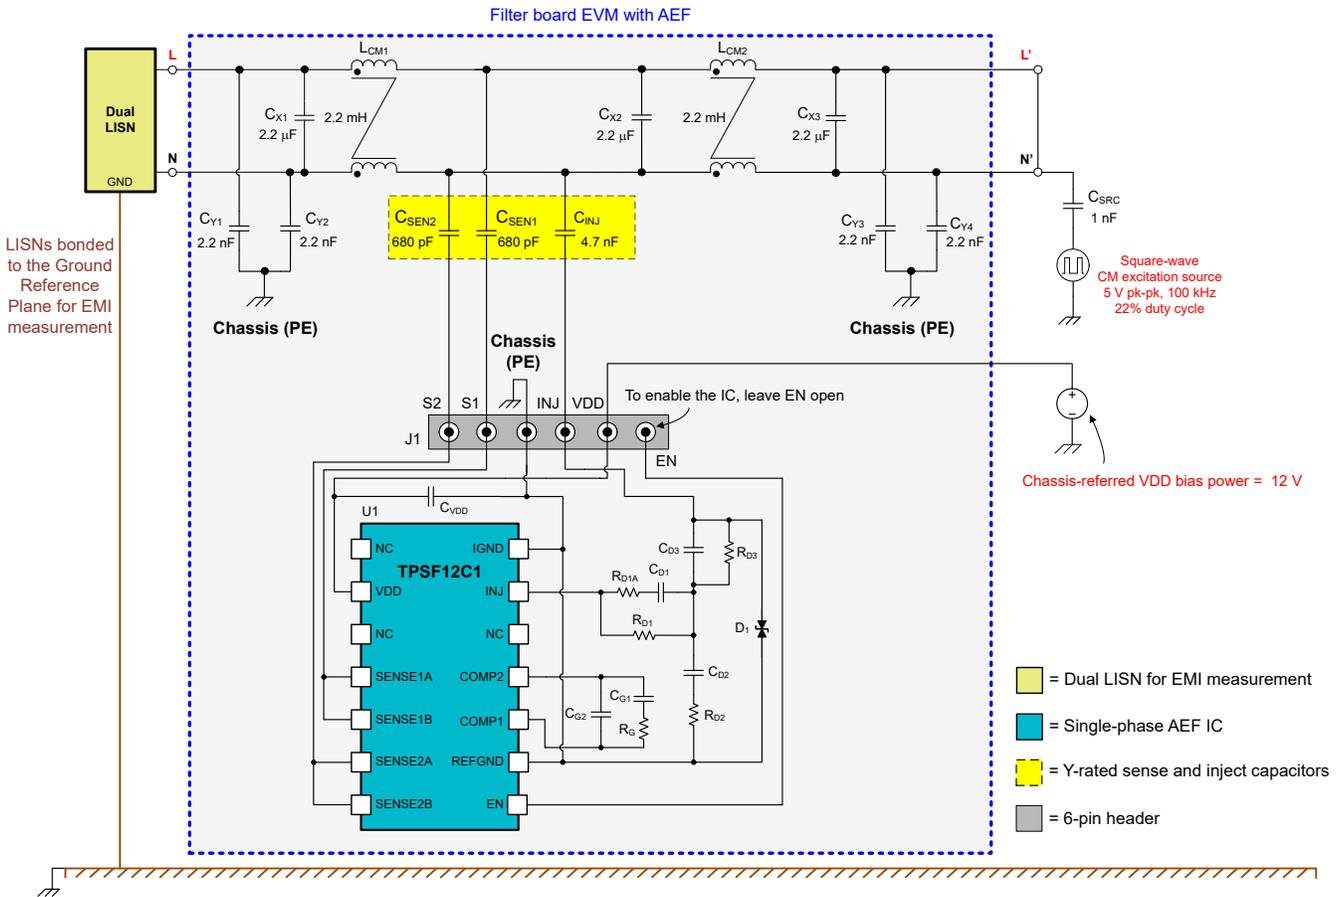

Figure 2-4. EVM Setup Schematic for Low-Voltage Testing
Meanwhile, Figure 2-4 shows a schematic that is designed for low-voltage testing of the filter design, including insertion loss measurement and EMI performance characterization.
- The user should perform low-voltage testing prior to connection to a high-voltage power stage. To provide CM excitation, connect a 5-V peak-to-peak square-wave source from a function generator on the regulator-side power connector J6, as shown in Figure 2-4. A 1-nF capacitor in series with the source emulates a practical CM noise source impedance. Such CM excitation enables measurement of the INJ pin voltage swing to confirm it operates in a window between 2.5 V and $V_{VDD} - 2$ V relative to GND.